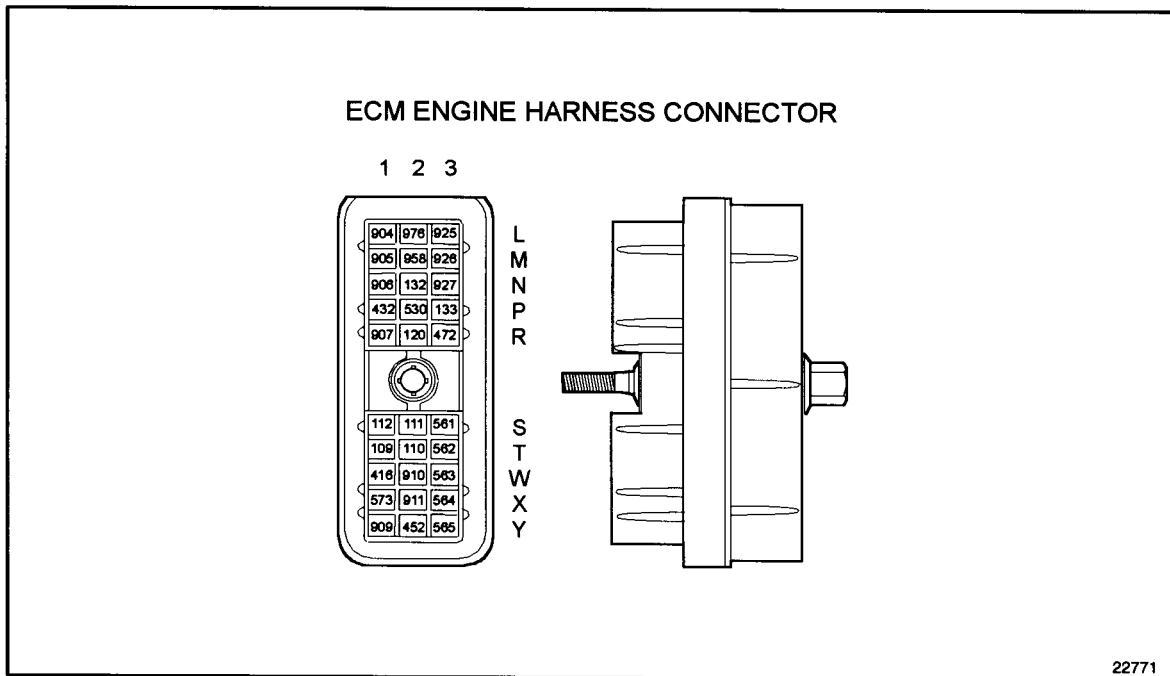

Figure 14-10 ECM Engine Harness Connector
4. Measure resistance between sockets P3 #133 and W1 #416 on the Master engine harness connector. See Figure 14-10.